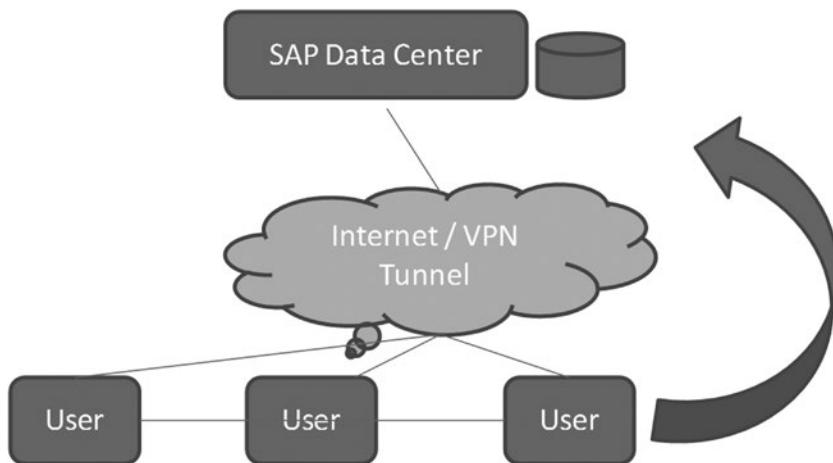

Figure 1-7. Business By Design—System Infrastructure
- SAP Business ByDesign—This is an on-demand solution hosted by SAP. Customers can select the functions applicable to them. The applications are managed at SAP's data centers. The user can access the required functions using a browser via VPN connectivity, firewall settings, and so on. Figure 1-7 illustrates this setup.